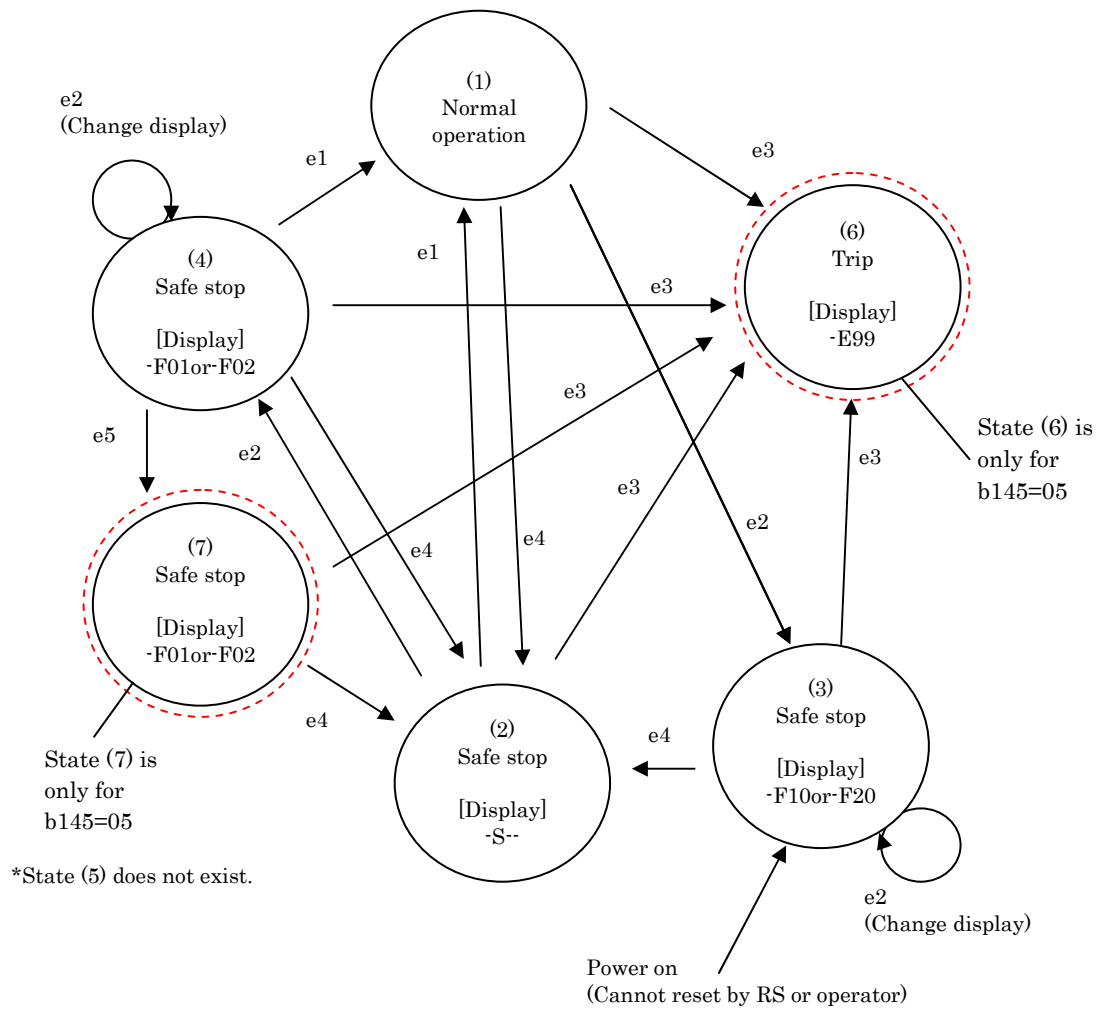

Fig. Ver.3.1-2 State transition diagram
- b146 can adjust the delay time that specifies time to transit from state (4) to state(7) depicted in fig. Ver.3.1-2. This parameter is valid only when b145=05. Once the state transits to state (7) in fig. Ver.3.1-2, it is necessary to active (open) both GS1 and GS2 again (to state (2)), and then deactivate (close) both GS1 and GS2 in order to return to normal operation (state (1)).
- The table Ver.3.1-4 below shows the newly supported monitor display content and error codes related to the parameter b145. Refer to table Ver.3.1-5 and fig Ver.3.1-2 together.
Note 3: Refer to fig. Ver.3.1-2 state transition diagram, for the details of each state.